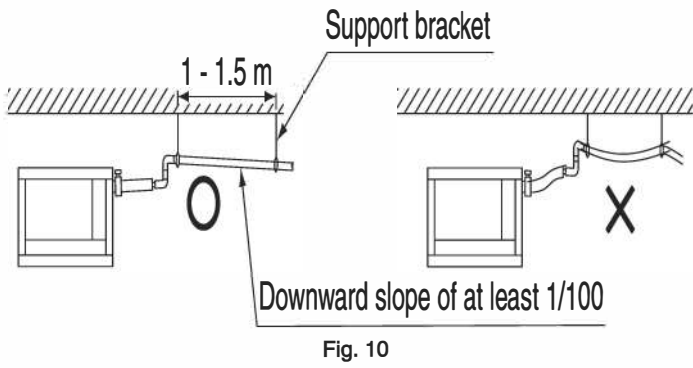

Fig. 10
(1) Carry out drain piping.
- Install the drain piping as short as possible with downward inclination of 1/100 or more and without such that air may not stagnate. (Refer to Fig. 10)
- Install supports at a distance of 1 to 1.5 m so that the piping may not deflect (Refer Fig. 10)
- Make sure to use the attached drain hose (2) and the metal clamp (1).